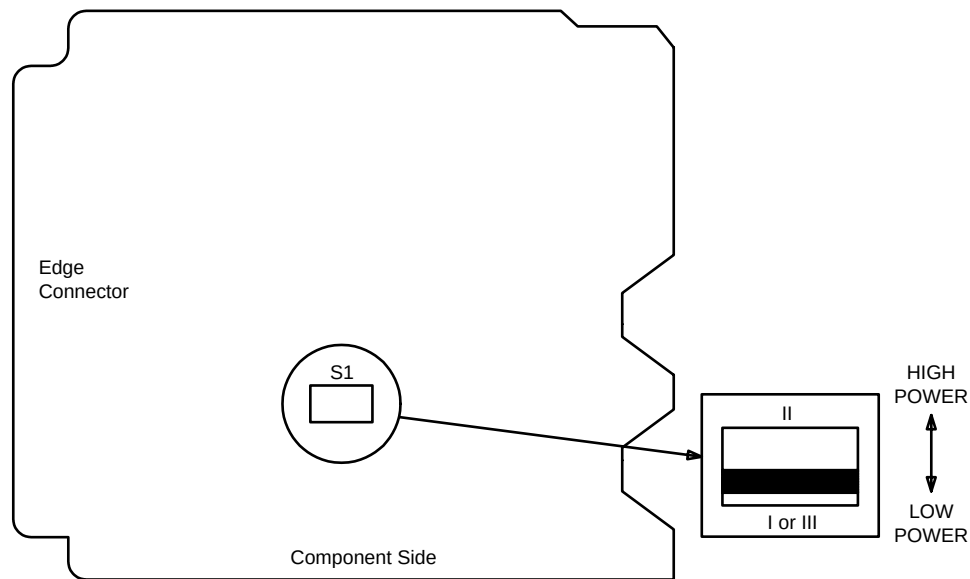

Figure 1 – OLIU Option Switch
12. Ensure that the **LOW POWER** option is set on the **21G OLI**U (Figure 1).